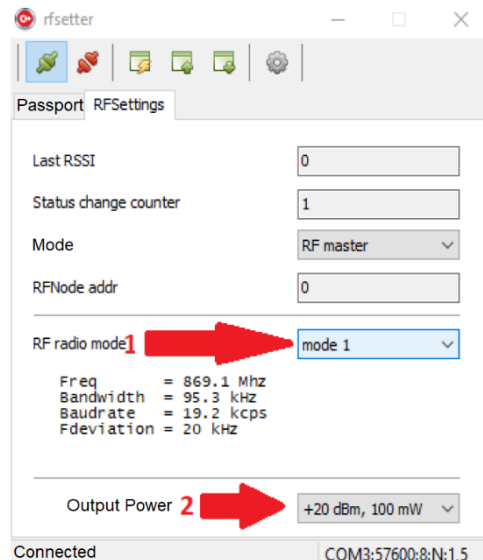

Figure 9. Setup of connection in the “rfsetter” software
3. Setup tab “RFSettings” (see Fig. 9).
Select channel on which the antennas will work together (see number 1 on Fig. 9). The “MASTER” and the “SLAVE” antennas must have the same channel selected, for example “mode 1”.
Select output power (see number 2 on Fig. 9).